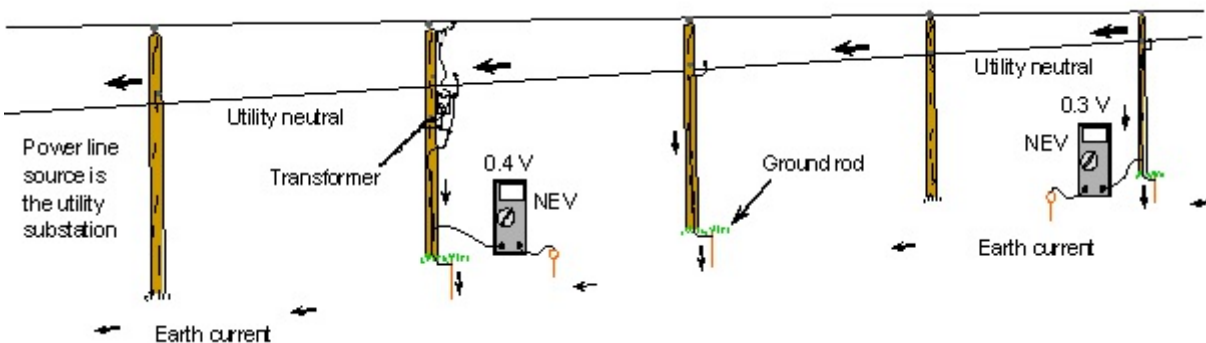

Figure 337.5 Most utility electrical distribution lines are multi-grounded to the earth and some of the neutral current flows in the earth.
1. Voltage drop on a utility multi-grounded distribution line neutral. (See Figure 337.5)
for a very small voltage to be present between the neutral wire and the earth at each grounding location. *This is what is known as neutral-to-earth voltage.* This phenomenon is explained by Ohm's law which explains that when this very small current flows across the ground rod resistance to earth a very small voltage occurs. This ground rod current is usually only a fraction of an ampere. Assume the ground rod current is 10mA (0.01 ampere) and the ground rod resistance to earth is 30 ohms. The neutral-to-earth voltage at that ground rod location is the product of the current in amperes and the resistance of the ground rod. For this example the NEV is 0.3 volts. Such small voltages have no effect on humans or animals. On occasion a condition can arise that results in an elevated level of NEV. Figure 337.5 illustrates a typical grounded neutral utility distribution line with a small current flowing in the earth back to the substation.